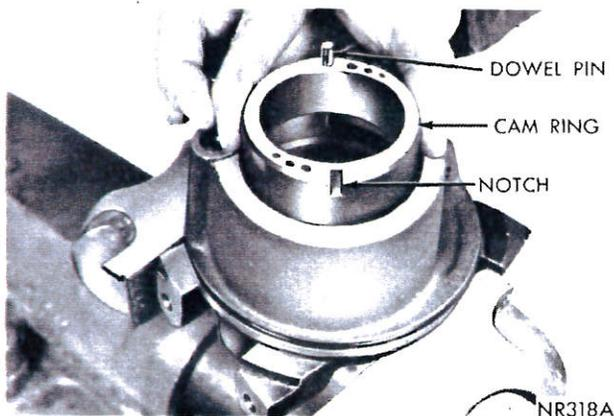

Fig. 27—Installing Cam Ring
- (7) Place dowel pin in cam ring and position cam ring inside pump bore. Notch on cam ring must be up or away from pulley end of pump (Fig. 27). If cam ring has two notches, one machined and one cast, install with machined notch up. Machined notch has sharp corners and cast notch rounded corners.